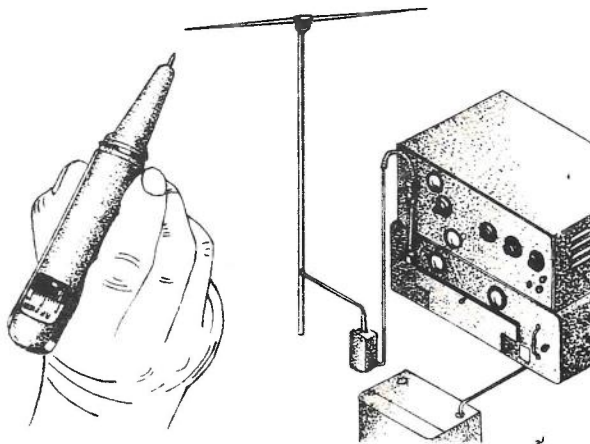

Figure 4-10. Checking RF Output of Radio Transmitter at Antenna with RF Indicator-Probe
(1) The RF Indicator-Probe will indicate the presence of intense radiation from antennas or RF transmitters. Figure 4-10 shows the method of use of this Probe near an antenna. This is a direct test for radiation, and will show if the overall transmitter and antenna are operating. The Probe indicates the electric field and will give maximum indication near the ends of the dipole antenna. A test of operation for a transmitter would be to move the Probe into the vicinity of the output tubes and coils. An intense source of radiation, such as in this example, should be approached cautiously with the Probe, so as not to overload the internal germanium